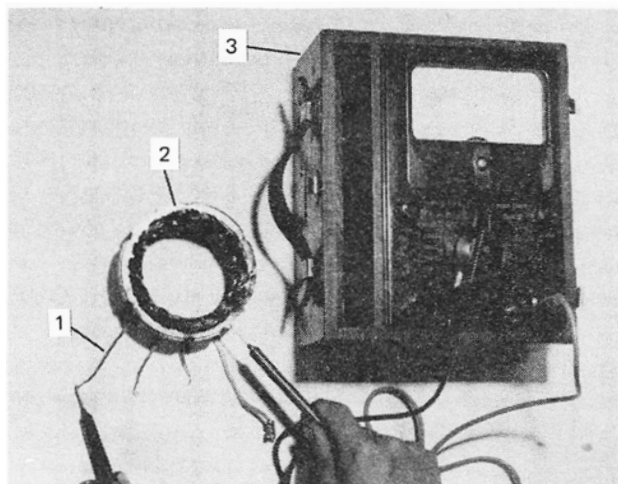

Figure 9
- Using an ohmmeter check the insulation of the stator coil as shown in Figure 9. There should be no